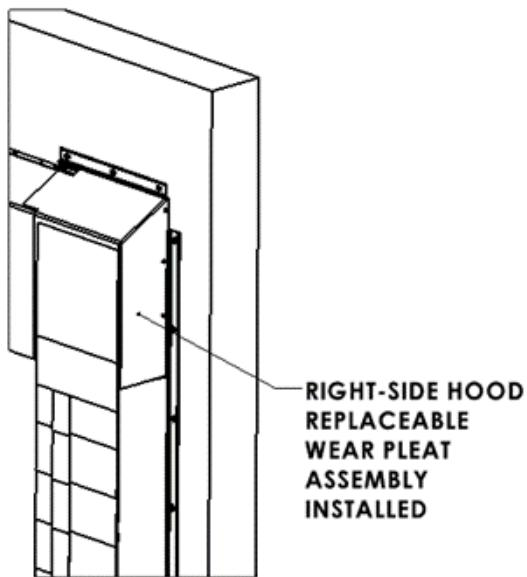

FIGURE 7
- d. Pull the Right-Side Hood Replaceable Wear Pleat Assembly (D) inward (toward the center of the Hood) until the end comes in contact with the end of the Hood (Figure 7).